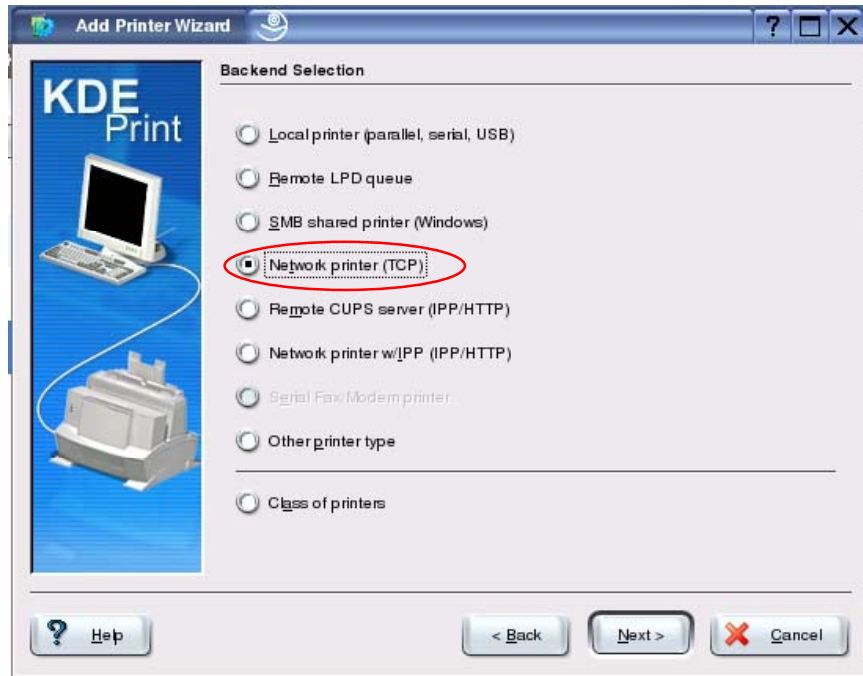

Figure 13: **Backend Selection** Window
2. Select the backend to use. In the example in Figure 13, **Network (TCP)** printing is selected. This setting will be used as an example throughout this section. Click on the **Next** button to continue.